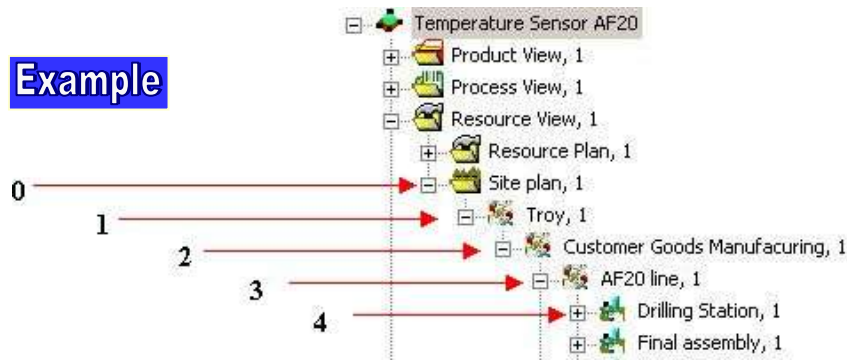
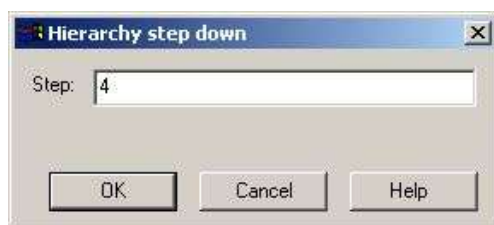

Figure 11: Example - Manufacturing Concept for Creating Several Levels
Figure 13: Dialog – Enter Hierarchical Levels
- If you enter **zero** in the dialog, (*Please refer to the Figure 13*), a manufacturing concept is created for this hierarchical level only. In the example it is (*Please refer to the Figure 11*) the hierarchical level **Location of New Plant**.